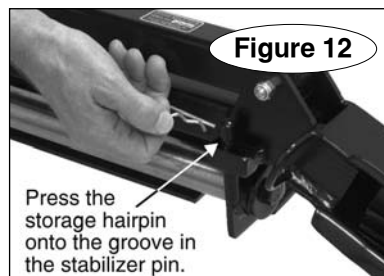

Figure 12
Slide the driver's side arm to the extreme left side of the stainless steel slider bar, and lower the coupler onto the stabilizer pin (Figure 12).
6. To secure the tow bar, press the storage hairpin onto the groove in the stabilizer pin (Figure 12).